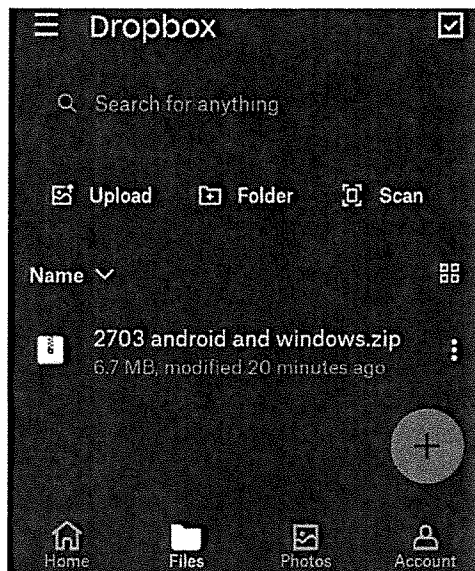

Figure 1: Exporting the Nutech app using Dropbox.
- Sign into your Dropbox app (if asked) and you should see your zip file as shown below (Figure 1).